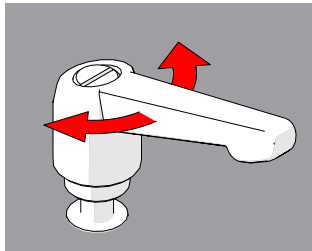

Fig. 54 - Rotate handle
2. Continue to pull while rotating the lever in the appropriate direction (Fig. 54).